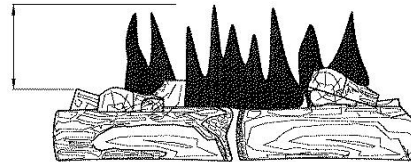

Figure 18 - Incorrect Flame Pattern with Control Knob Set to High (5)
- Figure 18 shows an incorrect burner flame pattern. If burner flame is incorrect: Turn heater off (see To Turn Off Gas to Appliance, page 16) see Troubleshooting, Page 19.